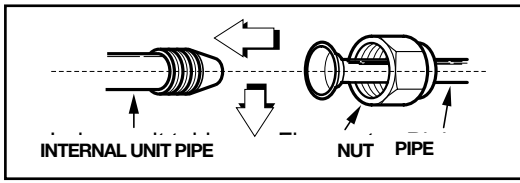
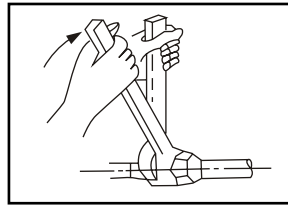

fig.16a
fig.16b
- 5b. Lock the nuts using a dynamometer wrench, as indicated in fig. 16a and fig. 16b.